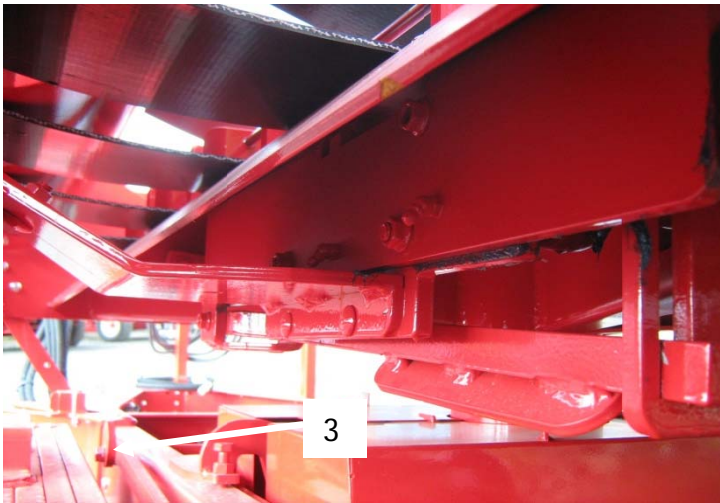

Figure 5.6 Adjusting the plastic film cutter blade (at rest)
-Reposition the blade (3) (Figure 5.6) to change when the plastic film cutter closes during bale unloading. Ideally the plastic film cutter is actuated just before the table is fully lifted.